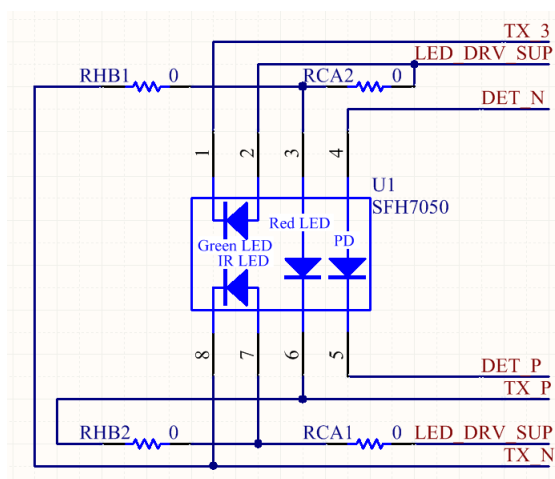

Figure 43. OSRAM SFH7050 Sensor Board LED Connections
- The OSRAM SFH7050 sensor board has one infrared, one red, and one green LED. This board can be configured in H-Bridge mode with jumpers RHB1 and RHB2 or push-pull (common anode) mode with jumpers RCA1 and RCA2, shown in Figure 43. By default, the IR and red LEDs are on, and the third green LED can be enabled with TX3 mode in the *TX Stage* tab.